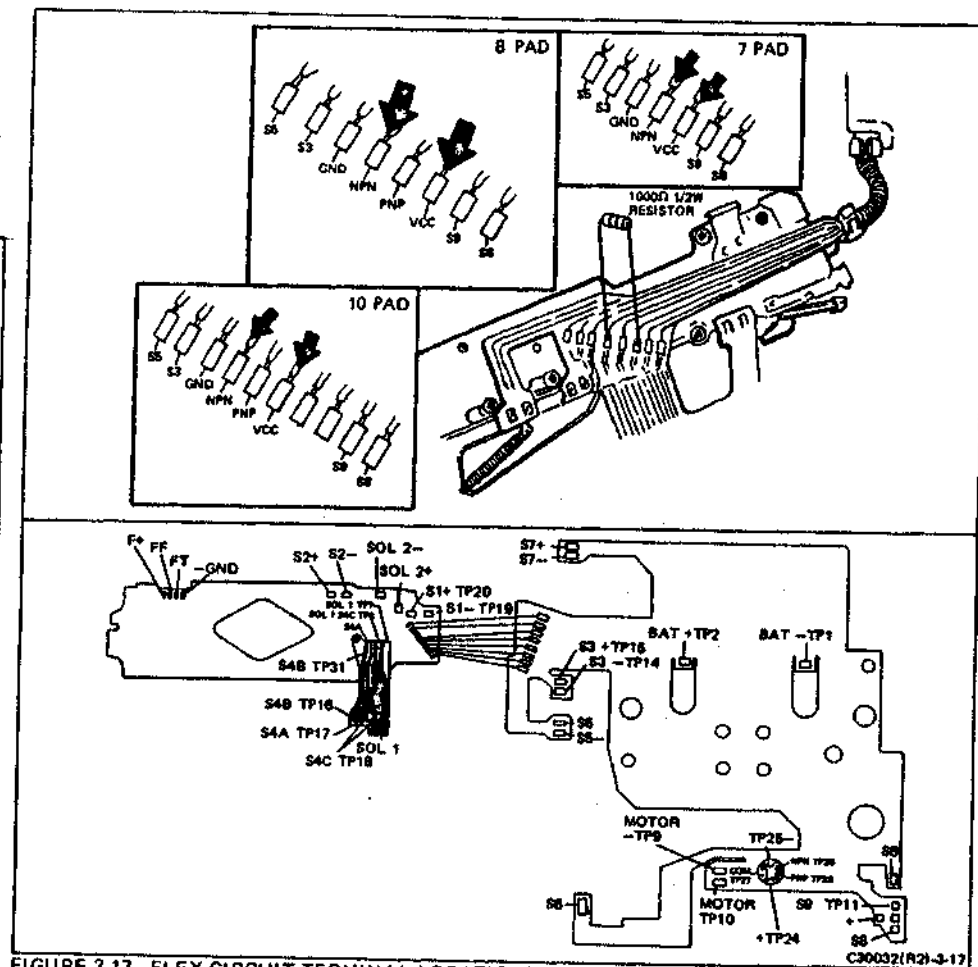
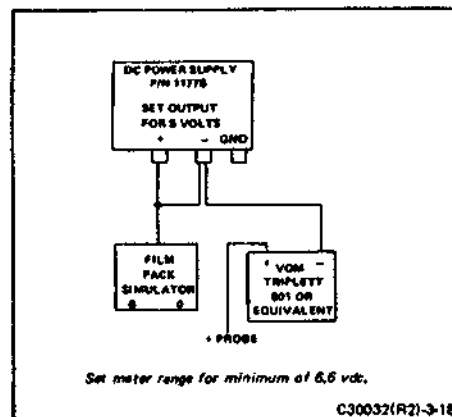
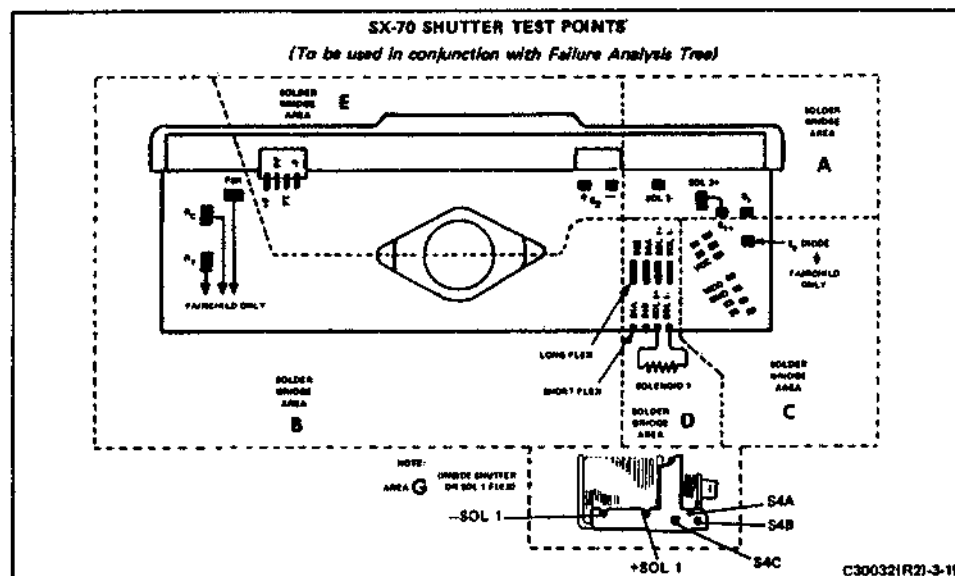

FIGURE 3-17 FLEX CIRCUIT TERMINAL LOCATIONS
FIGURE 3-18 TEST INSTRUMENT CONNECTIONS
FIGURE 3-19 TEST POINTS ON SX-70 SHUTTERS
- Disassemble the camera to the point where the terminals on the flex circuit are accessible (Figure 3-17).
NPN terminal is located directly adjacent to the VCC terminal. Refer to the insets in Figure 3-17 to locate the proper terminals.
Figure 3-18. The film pack simulator is inserted into the camera and the negative lead from the VOM is connected to camera ground through the power supply. This allows all the tests to be completed simply by moving the VOM lead as a probe from point to point. Figure 3-17 in conjunction with Figure 3-19 will assist you in locating the test points or terminals called out.